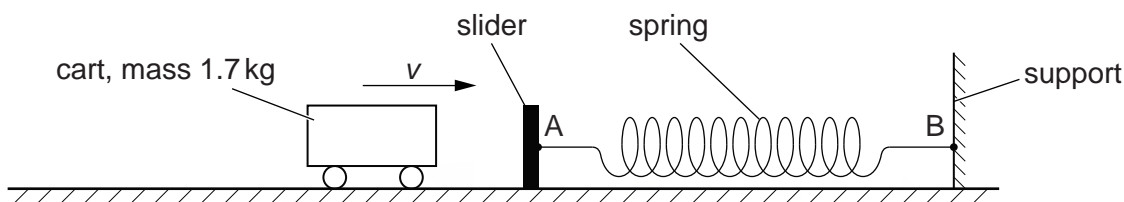

Fig. 4.1
- 1 A spring is kept horizontal by attaching it to points A and B, as shown in Fig. 4.1.